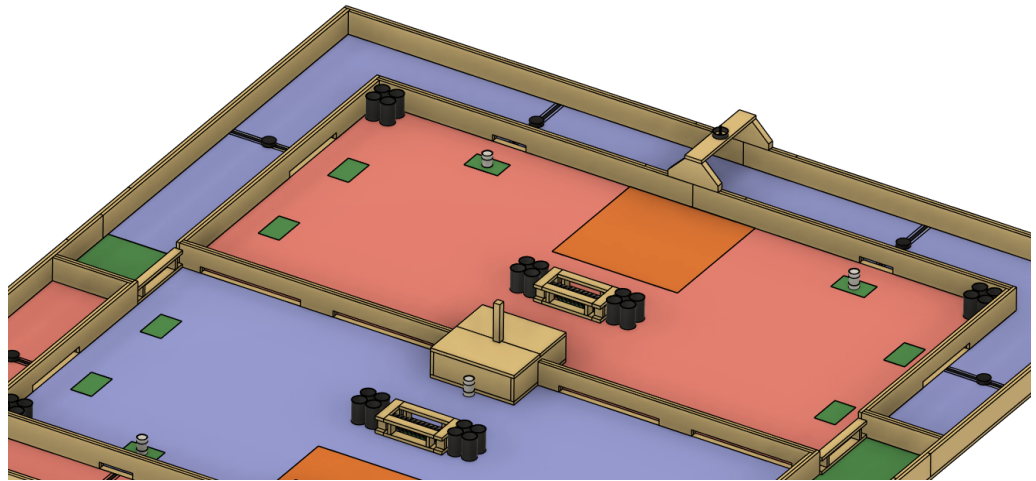

Figure 4: The Corral
- 4.2.1.2. The starting zone is the orange square area in Figure 4, located in the center of the court, against the wall separating the corral and the opponent's Autonomous Zone.